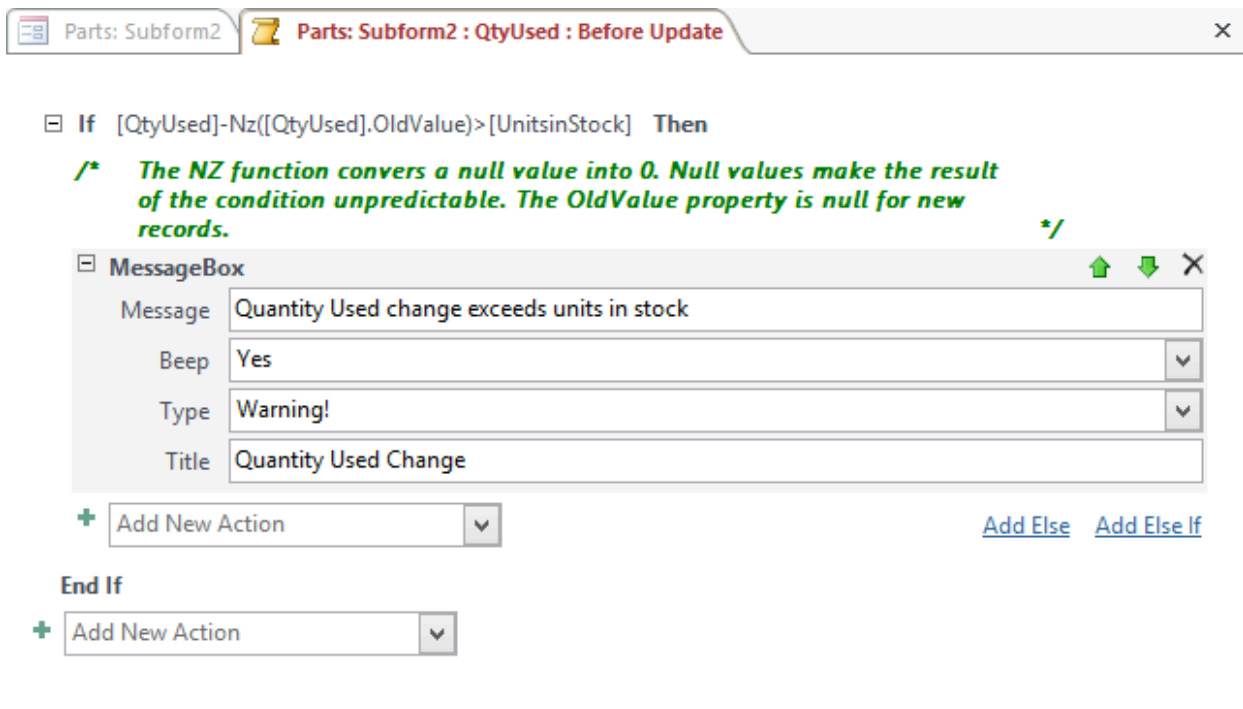

Figure 40: *MessageBox* Action Specified for the If Action
- Figure 40 shows the completed *MessageBox* action with parameters.